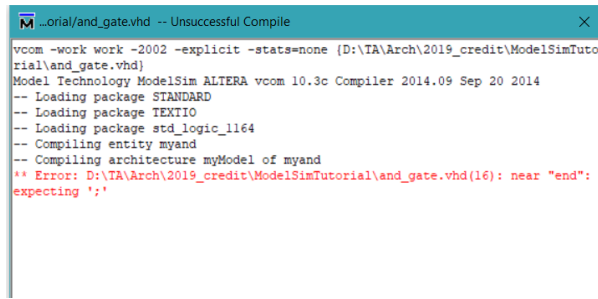

Figure 5: Check error Description
5. Check the transcript to make sure no errors. (there should be one error Fig.5).